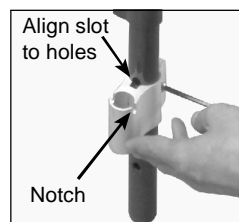

Figure 7
1. If ordering footrests, slide the footrest clamp over the leg tubes making sure the notched end faces upward. Align the center slot on the clamp to the holes on rolling base leg (Fig 7). Secure the clamps with bolts. The height is adjustable and can be re-positioned when the seating is fully assembled for correct fit.